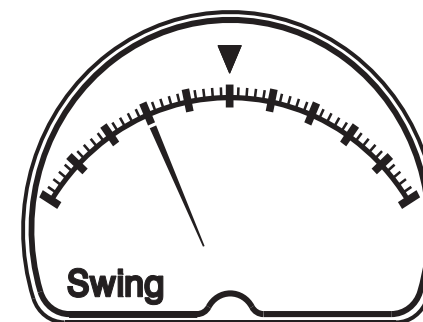

Figure 7-7-2: Pressure swing indication
**Example: for the ADT681 with (0~100) kPa, if the current pressure reading is 50.01kPa and the previous pressure was 50.11kPa, the fluctuation degree for 2 separate pressures is - 0.1%FS, as figure 7-7-2 shows.**